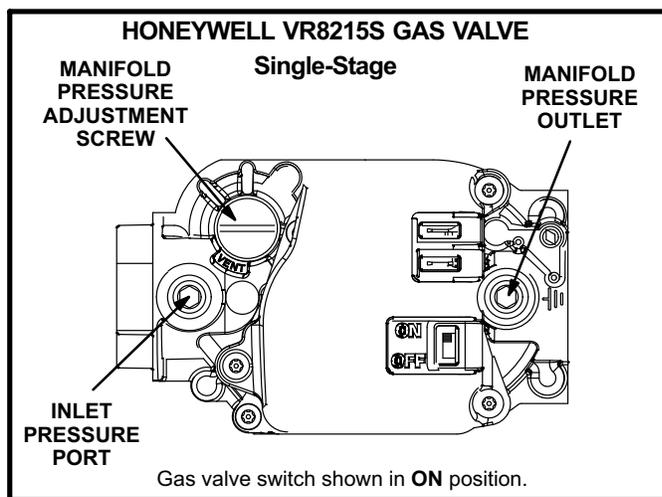

FIGURE 23
Gas Valve Operation (figures 23 and 24)
- 5- Move gas valve switch(es) to **OFF**. See figure 23 or 24.
- 6- Wait five (5) minutes to clear out any gas. If you then smell gas, **STOP!** Immediately call your gas supplier from a neighbor's phone. Follow the gas supplier's instructions. If you do not smell gas, go to the next step.
- 7- Move gas valve switch(es) to **ON**. See figure 23 or 24.